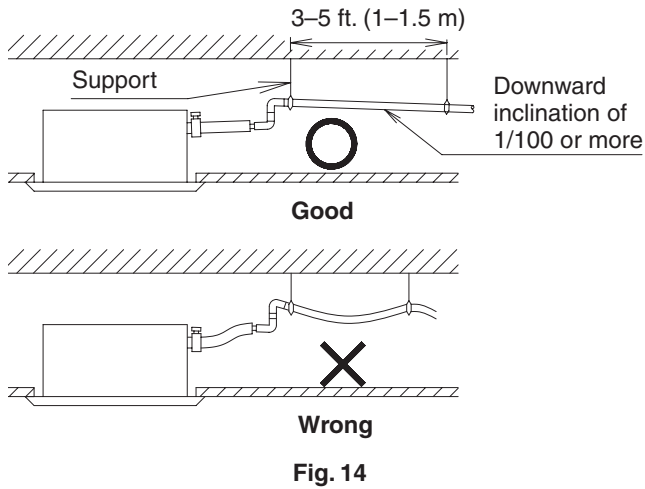

Fig. 14
- Install the drain piping as short as possible with downward inclination of 1/100 or more where air cannot stagnate. (Refer to Fig. 14) Bubbling sound may occur.
- Install supports at a distance of 3–5 ft. (1–1.5 m) so that the piping may not deflect. (Refer to Fig. 14)
- Make sure to use the attached drain hose (1) and the metal clamp (2).